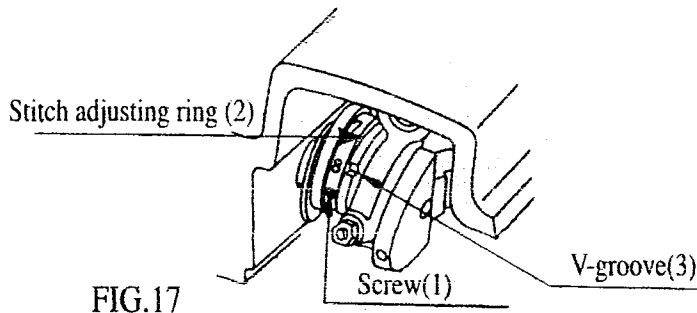

FIG.17
8. PRESETTING THE STITCH LENGTH (FIG.17)